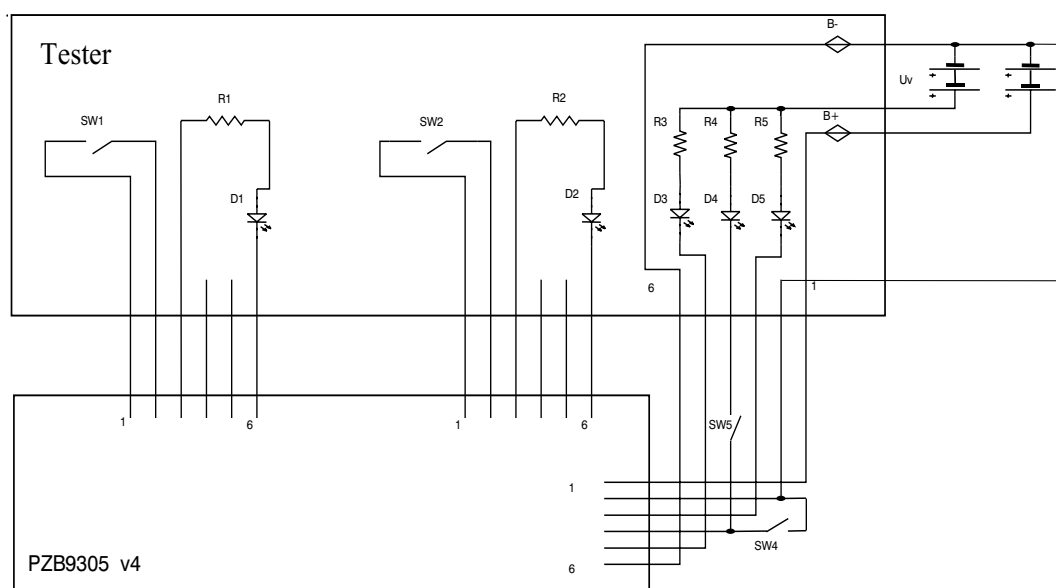

Figure 12: Scheme for connection of ПЗБ2х 64 testing equipment
Connect testing board with *II3B2x 64* board according to figure 12.
After connecting performed in accordance with figure 12, switch off SW1- SW5 switches and DIP switches on *II3B9305 64* board (SW1-SW3 switch to position "0", SW4 to position "1" (1.8 V/cell) and SW5 into position "1" (B4).
- testing board, according to scheme in figure 12;